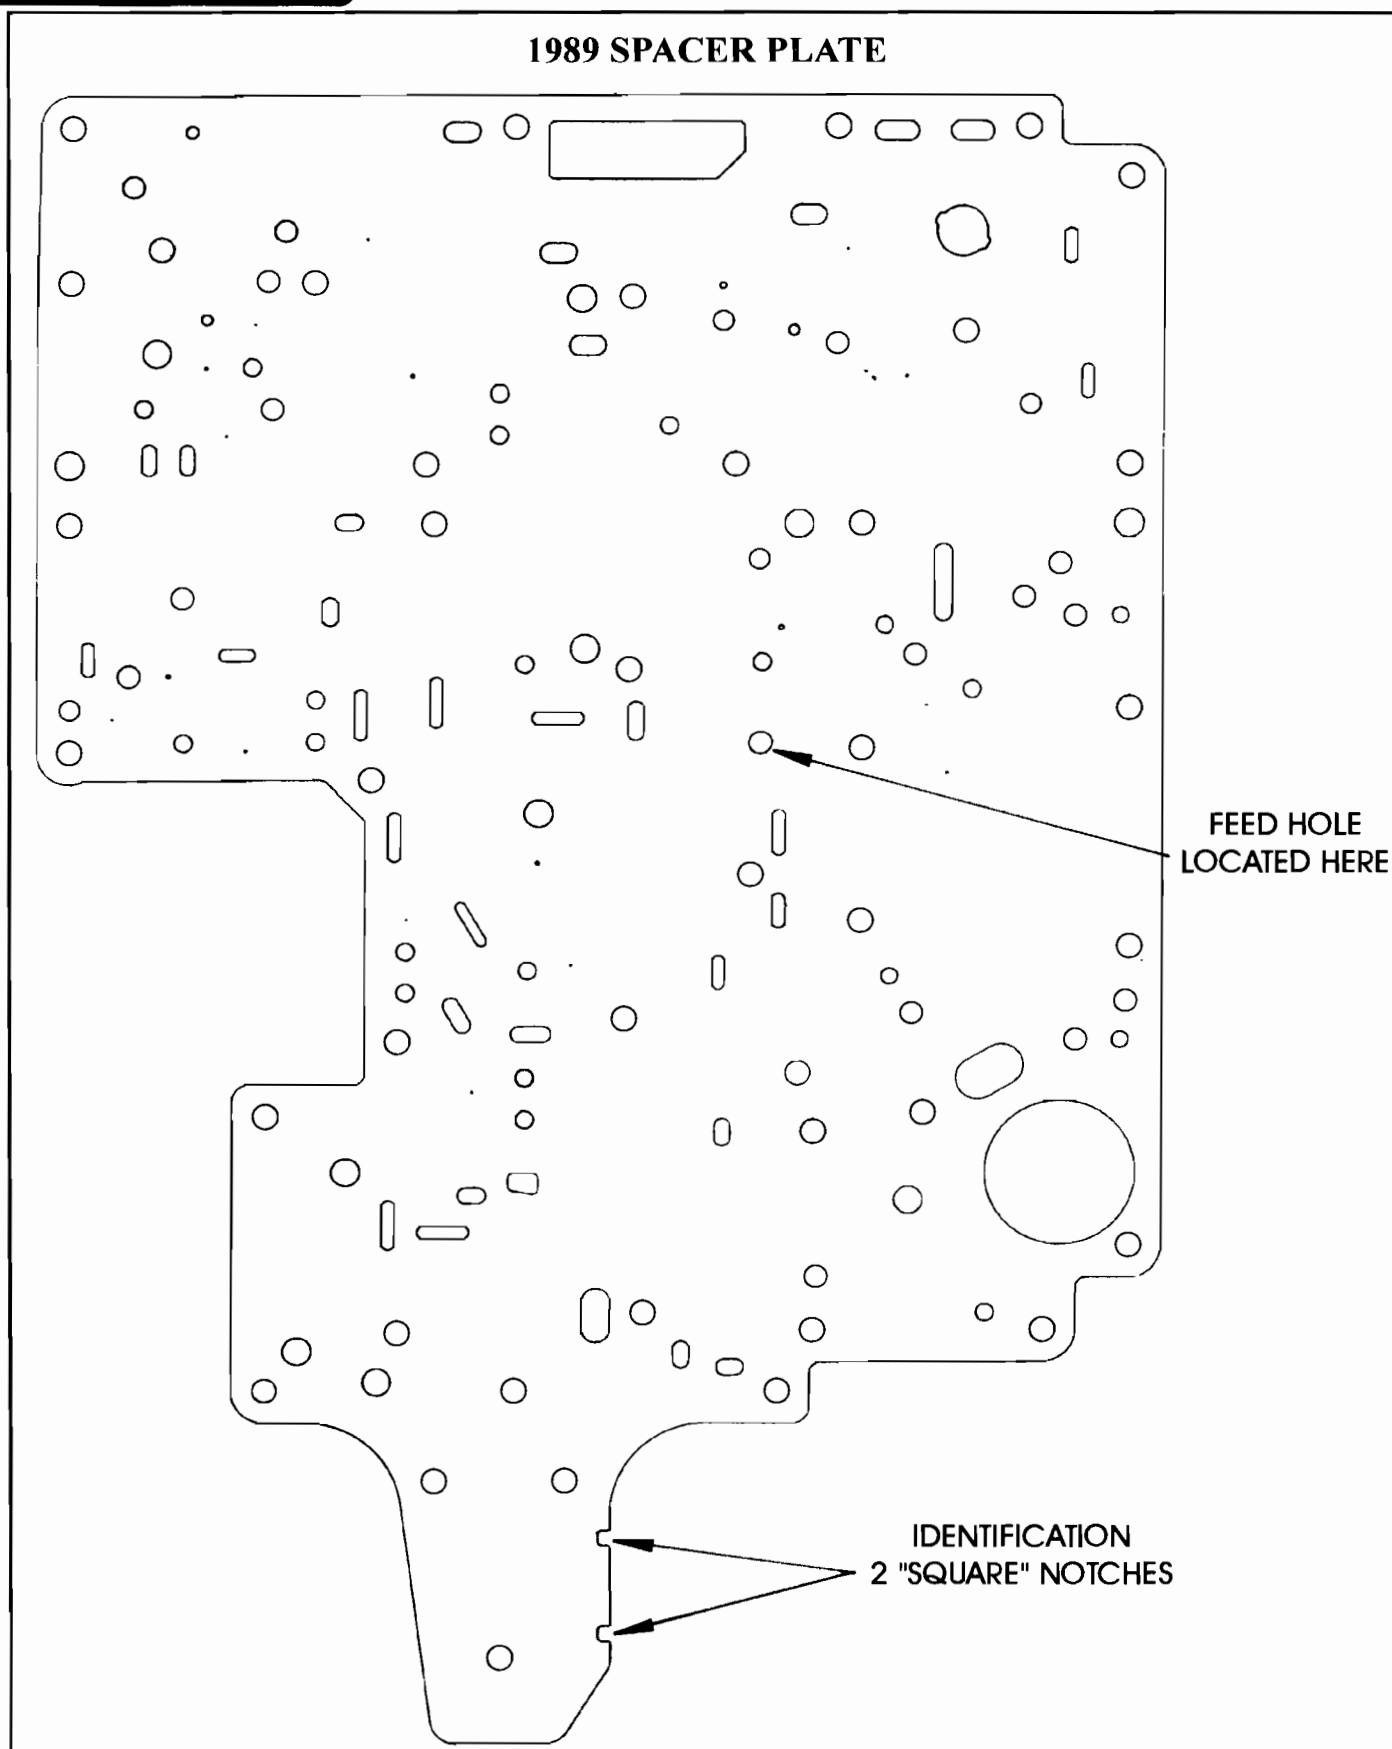

Figure 10
- (1) MAIN VALVE BODY SPACER PLATE - Can be positively identified by the solenoid feed hole location, as shown in Figures 10 and 11. Can also be identified by the shape of the I.D. notches in the spacer plate, as shown in Figures 10 and 11.
- (2) VALVE BODY GASKETS - **Must** have solenoid feed hole locations in the gaskets that match the solenoid feed hole locations in the spacer plate, as shown in Figures 10 and 11.